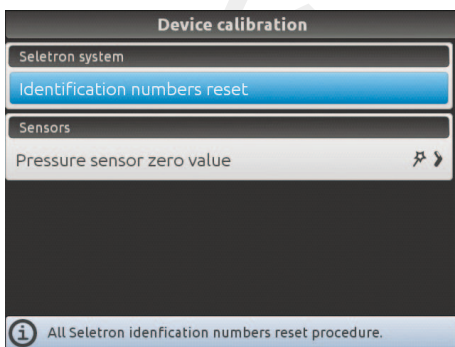

Fig. 132
- Select **Identification numbers reset** (Fig. 132) and press **OK**.